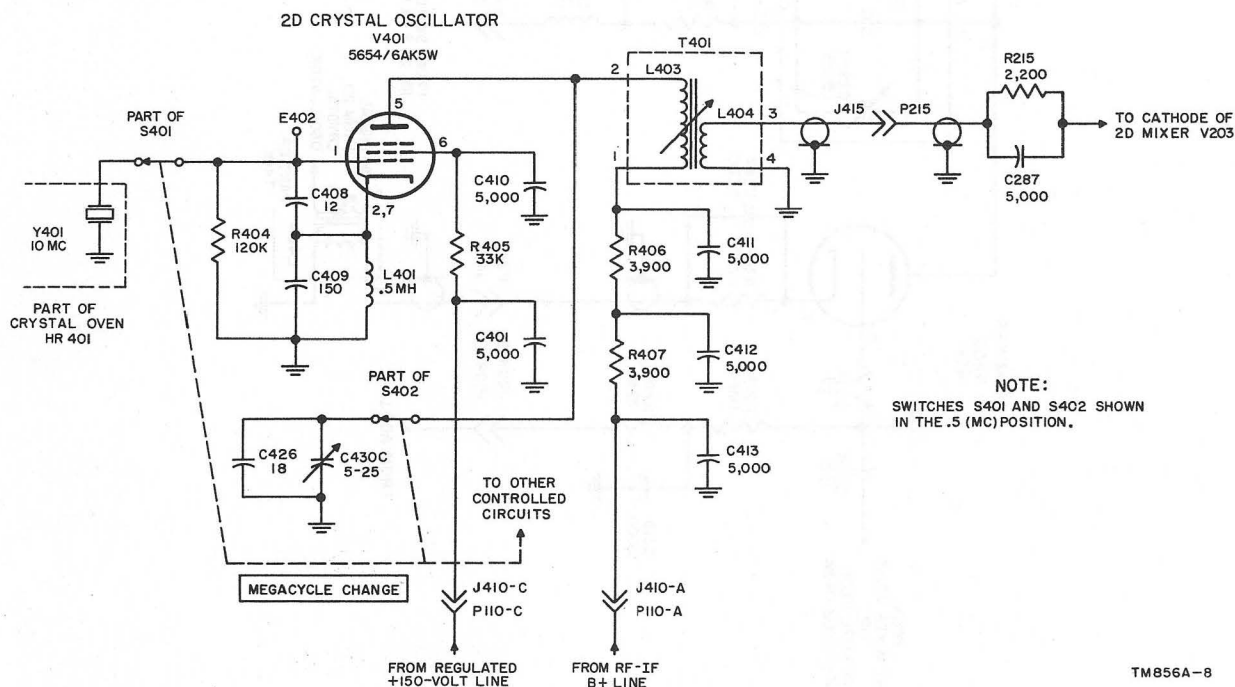
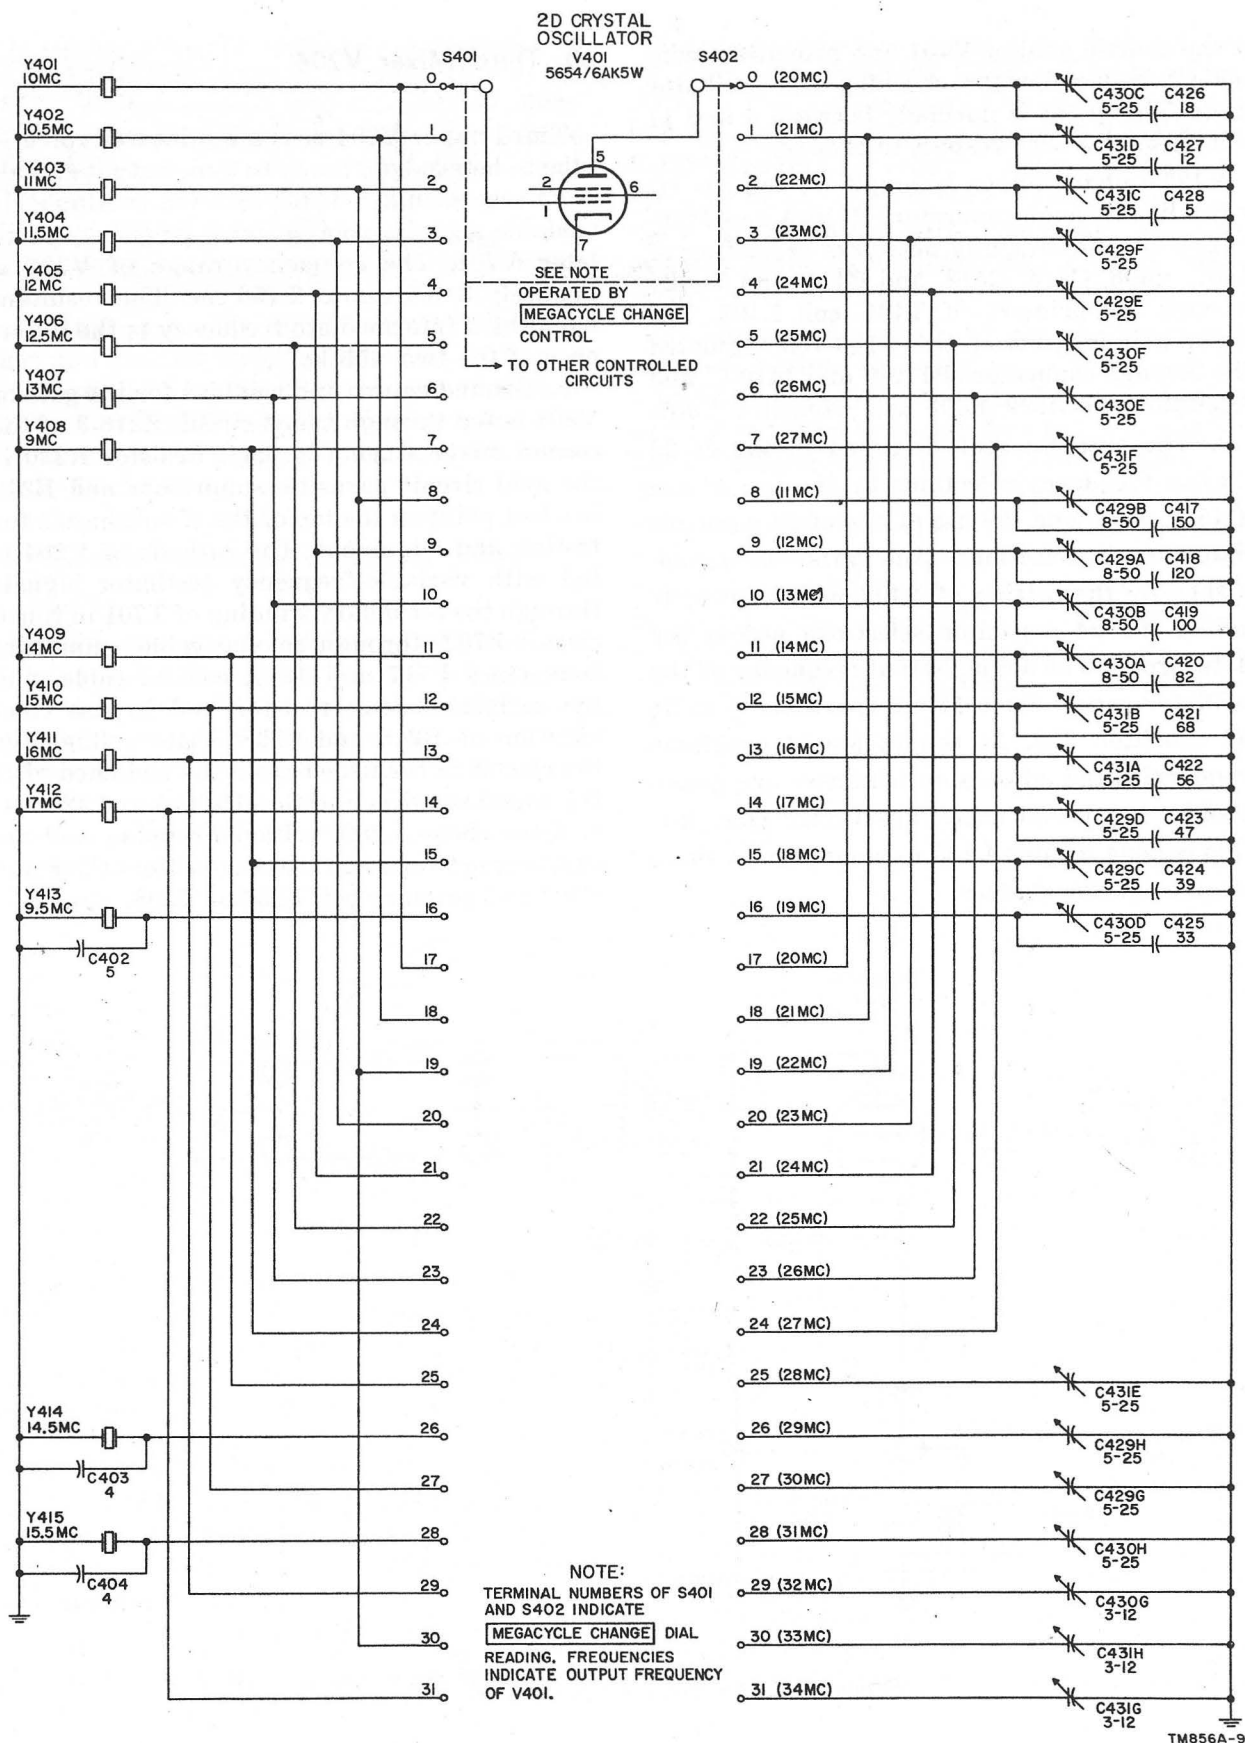

Figure 25. Second crystal oscillator V401, schematic diagram.
Figure 26. Second crystal oscillator V401, crystal and plate switching, schematic diagram.
59. Second Crystal Oscillator V401 (fig. 25 and 26)
rotary switches (fig. 26), which select certain crystals and resonant plate circuits for the oscillator. A total of 15 crystals is used to produce 24 different output frequencies and 32 frequency selections. This is done by operating the plate circuit of the second crystal oscillator at its fundamental frequency, second, or third harmonic.
a. Each crystal, Y401 through Y415, is switched across the grid circuit of V401 (fig. 26), the selection depending on the operating frequency of the receiver. Resistor R404 (fig. 25) is the dc return to ground for the control grid, and series capacitors C408 and C409 form an approximately ten-to-one voltage divider across the grid circuit. The cathode is connected at the junction of these two capacitors, and is maintained above rf ground by rf choke coil L401. This oscillator is a modified electron-coupled Colpitts, as distinguished by the cathode choke and the feed-back path from the junction of the series-connected capacitors and the cathode. The screen grid of V401 is held at rf ground potential with feed-back capacitor C410, and the plate circuit is electron-coupled to the grid and cathode circuits. Test point E402 is located
c. The output circuit is tuned to one of 32 various frequency selections by the use of one of 15 crystals and the use of one of 24 resonant plate circuit selections. The latter is accomplished by the setting of S402 which connects one of the 24 capacitor selections across the plate circuit. The actual output frequency of the oscillator ranges from 11 mc (position 8) to 34 mc (position 31). At the 12 lowest oscillator frequencies the adjustable trimmers are paralleled by additional fixed capacitance (fig. 26). This is done to tune L403 to resonance at these lower frequency ranges.